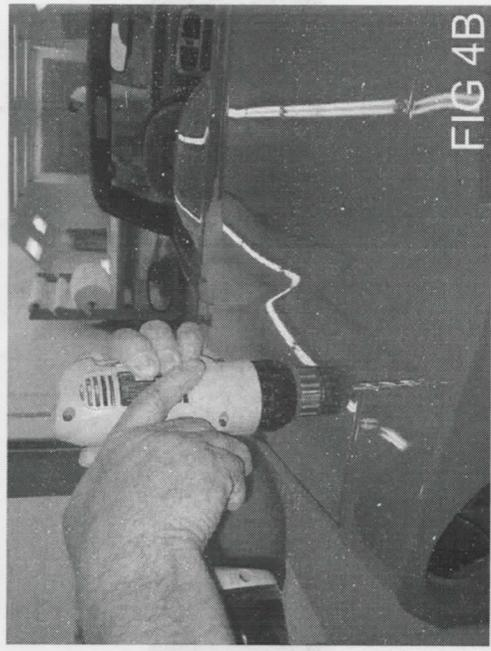

FIG 4B
9. USING A 5/16 DRILL BIT, CAREFULLY DRILL THRU THE BUMPER USING THE DIMPLES OR SMALL HOLES MARKED IN STEP SEVEN AS A GUIDE. **CAUTION** DO NOT DRILL THRU RETAINER. **(FIG.4B)**